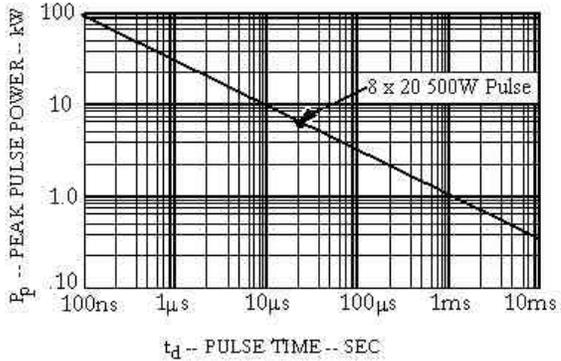

FIGURE 1
- SM03 thru SM36 have a Peak Pulse Power:500 Watts (8/20 usec, Figure 1)